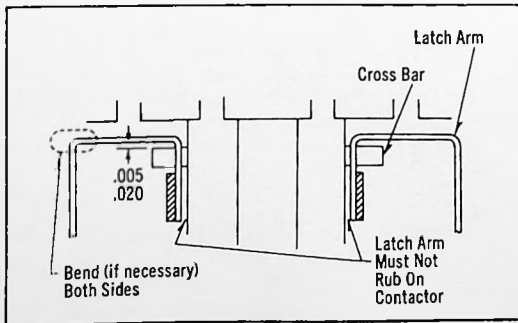

Figure 3 - Sizes 0, 1 and 2
1. With the cross bar fully depressed, the clearance between the molded cross bar and the latching surface of both latch arms should be in accordance with Fig. 3.
2. If adjustment is required to obtain the latch clearance specified in Fig. 3, the latch arms may be slightly bent in the area illustrated in Fig. 3.